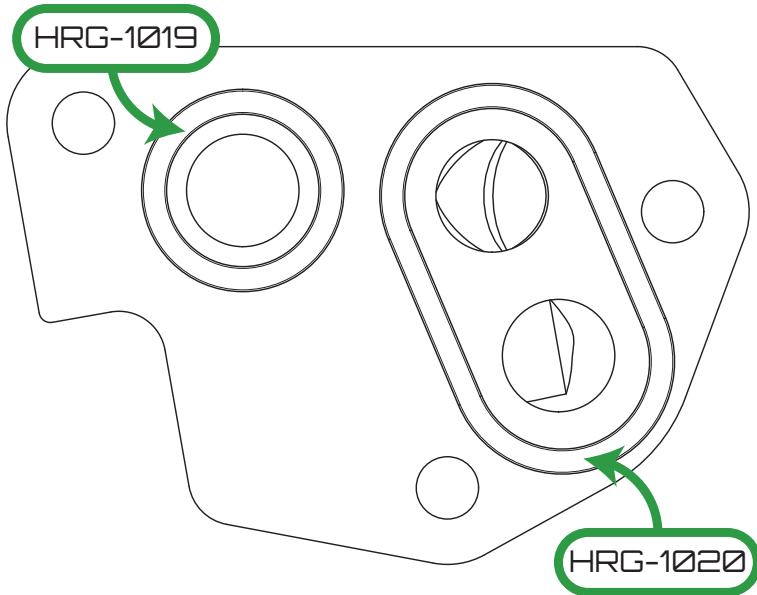

Figure 2 - HRG-1019 and HRG-1020 O-ring Glands
1. Ensure that two O-rings are installed into the glands of EFR-101 prior to installation. HRG-1019 and HRG-1020 should be inserted into the glands as shown in Figure 2.